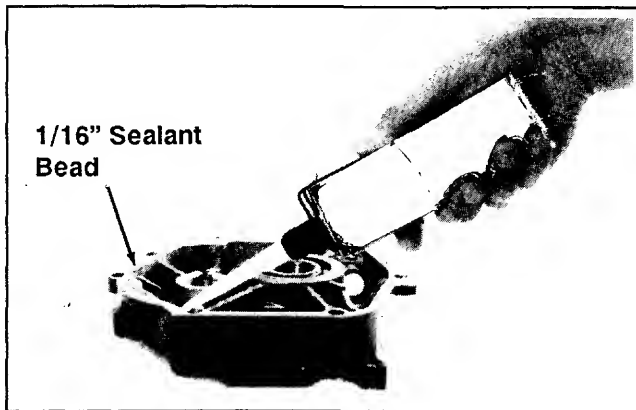

Figure 11-12. Applying Sealant To Closure Plate.
3. Apply a 1/16" bead of sealant to the closure plate as shown in Figure 11-12.